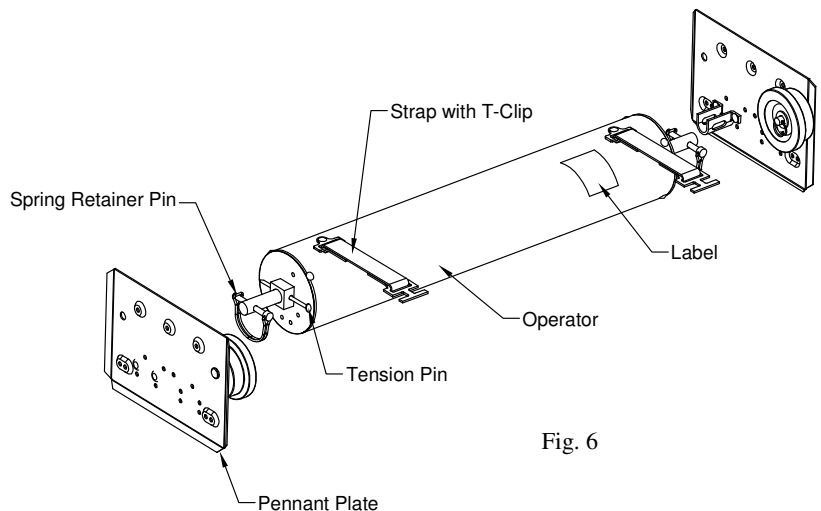

Fig. 6
- a) Place the operator shaft into the U-Brackets on the pennant plates. The tension pin and label shall be on the right while looking into the compartment as shown in Fig. 6